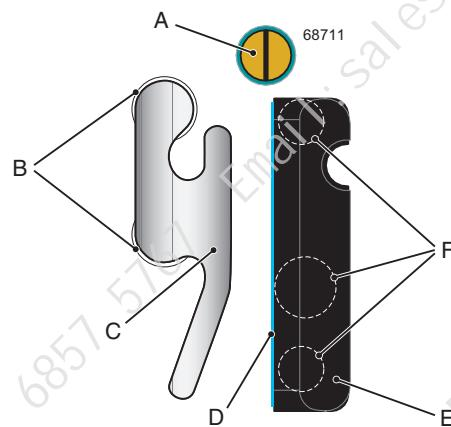

Figure 5. MidiEC printhead components
- 5 Use Figure 5 to identify the following printhead components.
- 6** Apply more solvent to the area shown with a circle in Figure 4 on page 8. Before the solvent dries, use a foam swab to carefully remove any ink deposits from the components identified in Figure 5 on page 9, as shown in Figure 6.